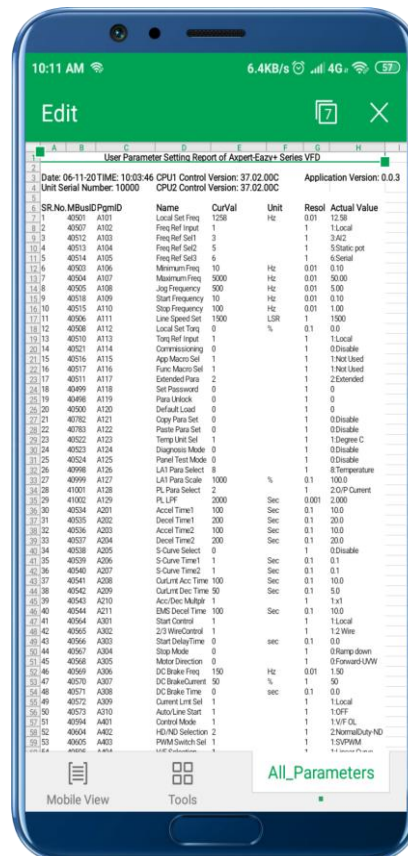

Figure 24: Copy parameter File
- This excel file when opened, shall appear as shown in Figure 24. It contains time and date at which file was created, the serial number, control versions of the product and the android application version used to create this report.